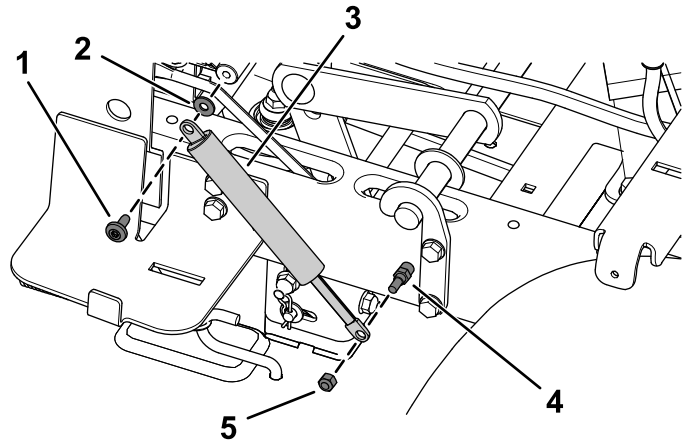

Figure 4
3. Remove the shoulder screw and washer securing the top of the damper (Figure 4).
4. While holding the damper stud in place using a wrench, remove the locknut (1/4 inch) securing the bottom of the damper (Figure 4).
5. Secure the top of the new damper using the previously removed shoulder screw and washer (Figure 4).
6. Secure the bottom of the new damper using the previously removed locknut (1/4 inch) as shown in Figure 4.